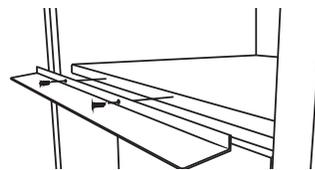

Figure 8A
Install deflector as shown in Figure 8A and 8B.
2. Install deflector as shown in Figure 8A.